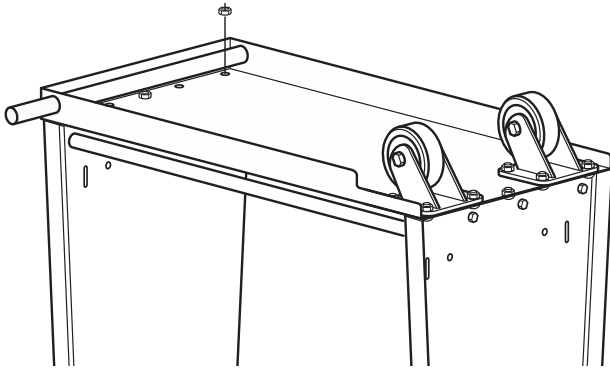

Figure 4-7
- On the Axle end of the cart, insert four Round-Head Square-Neck Carriage Bolts (item #4) through the mounting holes in the Side Panel flange and Base (see Figure 4-7). Attach bolts using four M10 Flanged Nylock Hex Nuts (item #16). **Fully tighten the sixteen M10 x 25 Hex Flange Bolts (item #6) from step 1 and the fourteen M10 Flanged Nylock Hex Nuts (item #16) from steps 5, 6, and 7.**